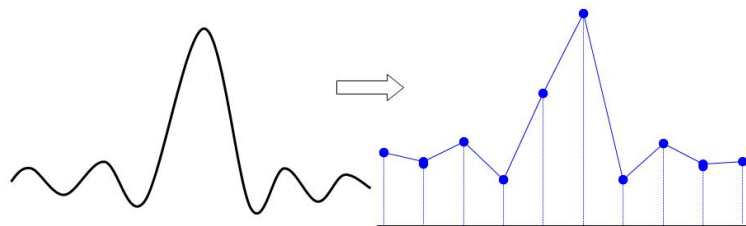

Figure 10-1
(2) The influence of low sampling rate
- **Waveform Distortion:** Due to low sampling rate, the details of the waveform might be missing, the sampling waveform might be different than the actual signal. As shown in Figure 10-1.